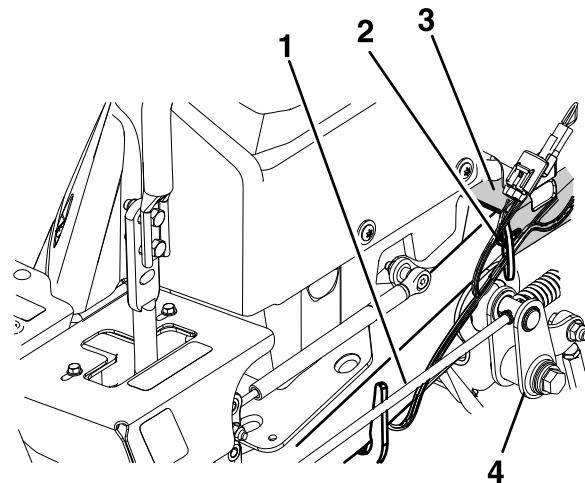

Figure 4
- A. The harness passes under the frame tube and routes upward between the upper brake link (see Figure 4).